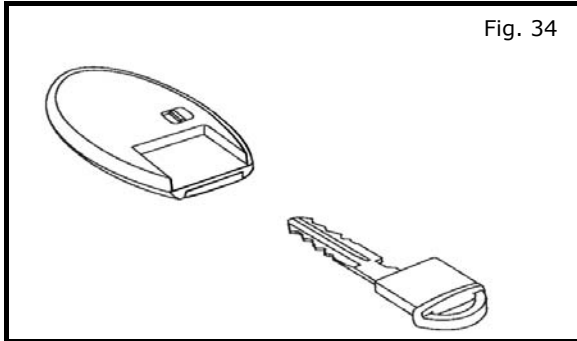

Fig. 34
a) Insert keys into new RES fobs as shown in Fig. 34.